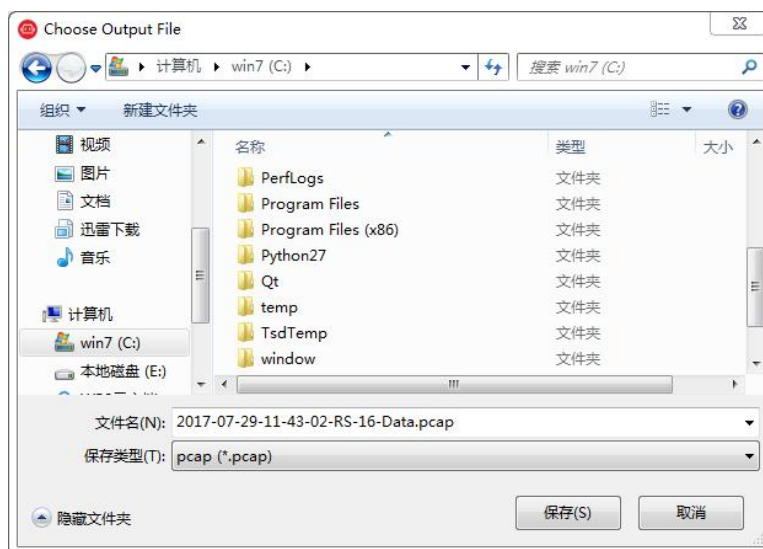

Fig C-5 RSView Record Saving Dialog
2. A Choose Output File dialog will pop up. Navigate to where you want the file to be saved and click the **Save** button (Fig C-5). RSView begins writing packets to your pcap file. (Note: RS-LiDAR-16 sensors generate a lot of data. The pcap file can become quite large if the recording duration is lengthy. Also, it is best to record to a fast, local HDD or SSD, not to a slow subsystem such as a USB storage device or network drive.)